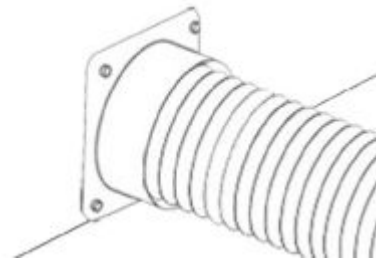

Fig. 4
2. **Position Ducting:** Place your 4" ducting over the Exhaust Port located at the back of the machine and hold. Secure with 4" ducting clamp. (See Fig. 4)